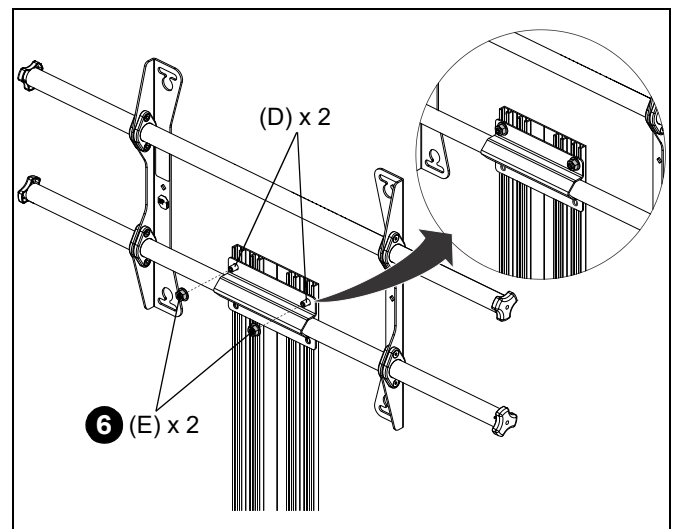

Figure 4
6. Loosely install two M8 flange nuts (E) to the ends of the M8 x 20mm screws (D). (See Figure 4)